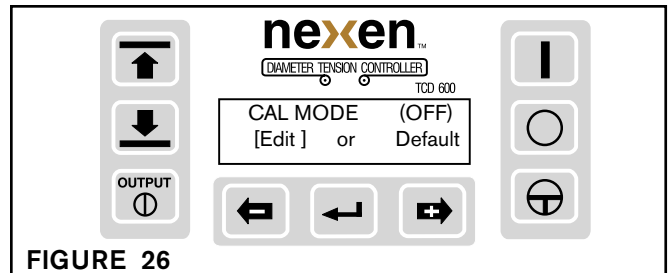
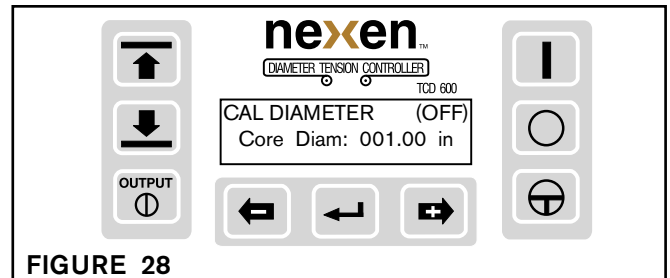
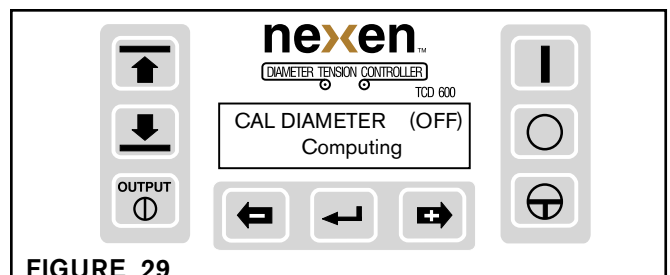
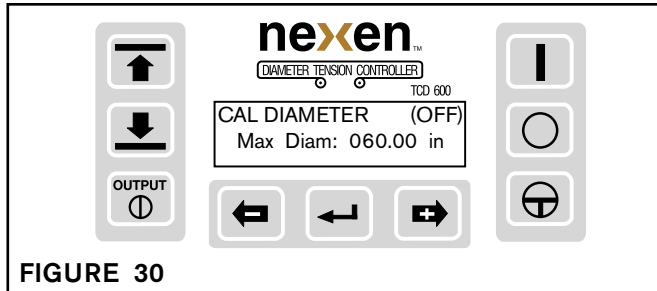

FIGURE 26
FIGURE 28
FIGURE 29
FIGURE 30
1. Using the Select Upper button, advance the top line of the display to Calibration Mode (See Figure 26). Using the plus or minus buttons, select Edit, then press the Enter button.
4. CAL DIAMETER, Core Diam: will appear in the display (See Figure 28). Using the plus or minus button, enter desired core diameter, then press the Enter button. Computing will appear in the display for a few seconds, then the display will advance to the next step (See Figure 29).
6. CAL DIAMETER, Max Diam: will appear in the display (See Figure 30). Using the plus or minus button, enter the maximum roll diameter then press the Enter button. Computing will appear in the display for a few seconds (See Figure 29), then the display will return to the CAL MODE (See Figure 26). Advance to Step 11 to enable lockout.
- CAL DIAMETER, Core Diam: will appear in the display (See Figure 28). Using the plus or minus button, enter the desired core diameter then press the Enter button.
- CAL DIAMETER, Max Diam: will appear in the display (See Figure 30). Using the plus or minus button, enter the desired maximum diameter then press the Enter button.